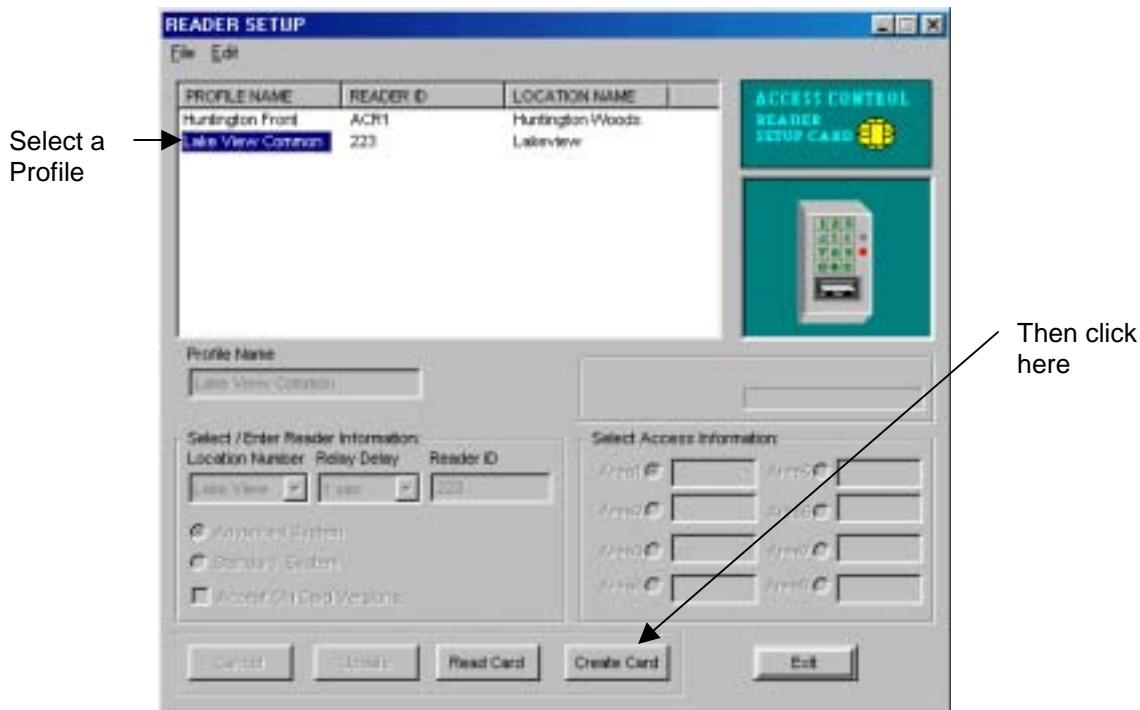

Figure 11.40 Creating a Door Access Reader Setup Card
2. In the Reader Setup window select the profile from the Profile List Window to be used for the setup card (Figure 11.40).
3. Click the Create Card button (Figure 11.40).